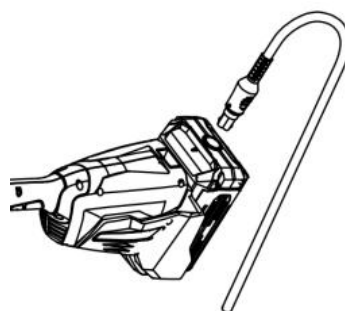

Fig.6
3. Connect and disconnect the battery with the tool(Fig 6).